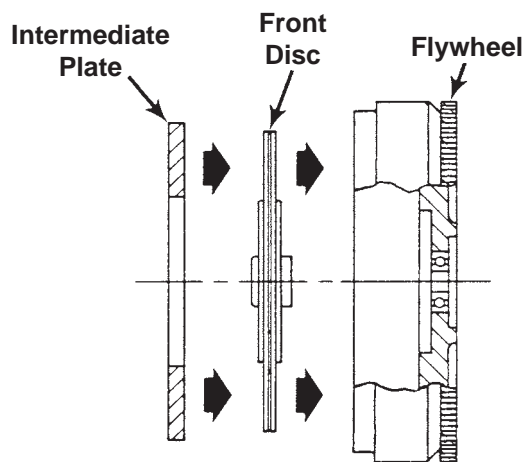

Figure 5
2. Place the new front clutch disc and intermediate plate into the pot type flywheel. See Figure 5.